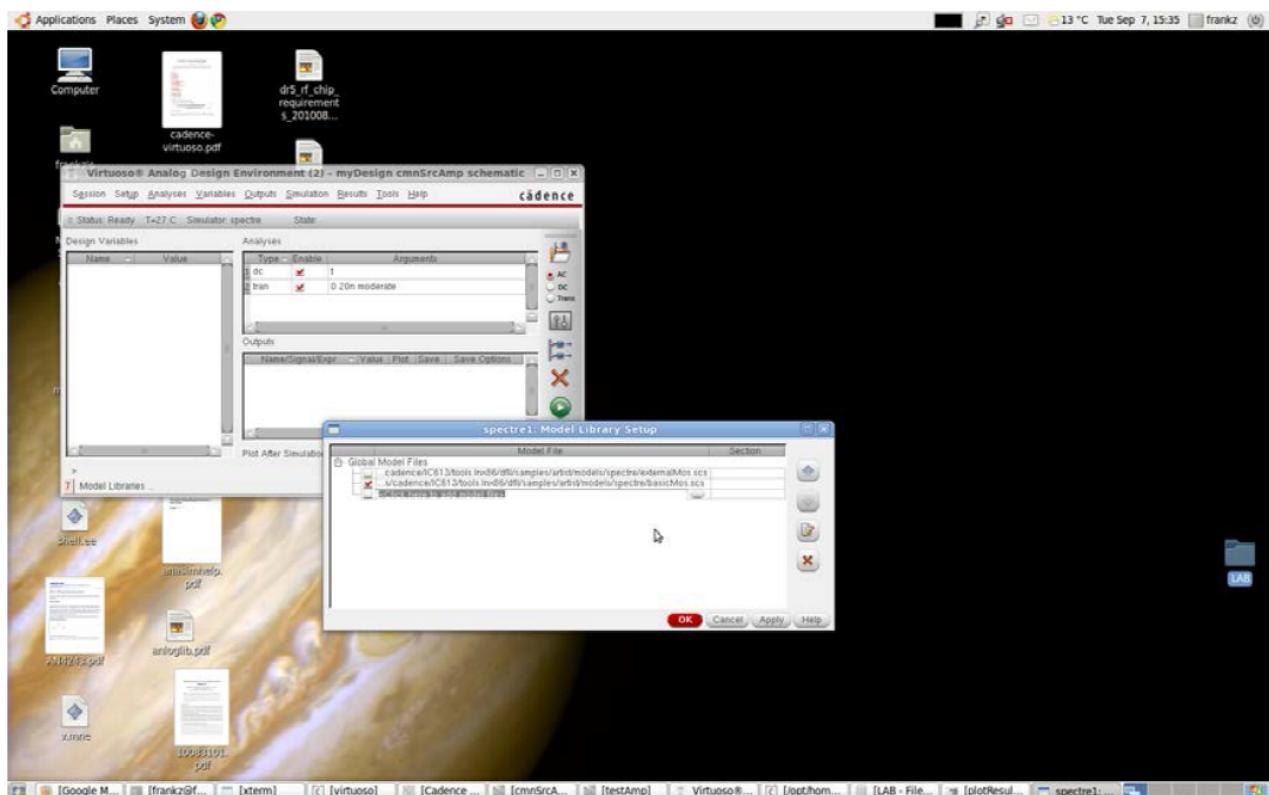

Figure 9: Adding model libraries
- Step 11: Add model libraries - In the ADE window, click *Setup* → *Model Libraries*. This will prompt you to *Model Library Setup* window shown in Figure 9.